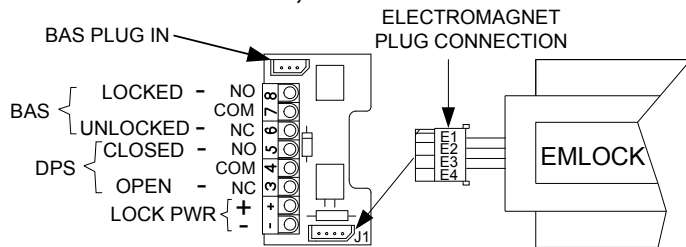

FIG. 3A
- Make all Emlock terminal connections according to Figure 3A or 3B.
Open circuit in Emlock coil.	Check coil continuity with OHM meter. If reading is high or open, replace the magnet coil. See Fig. 3A and the Resistance Specifications.
Magnet coil short.	Coil shorts or incorrect wiring will blow fuses. Measure the coil for correct resistance. See Fig. 3A and the Resistance specifications.